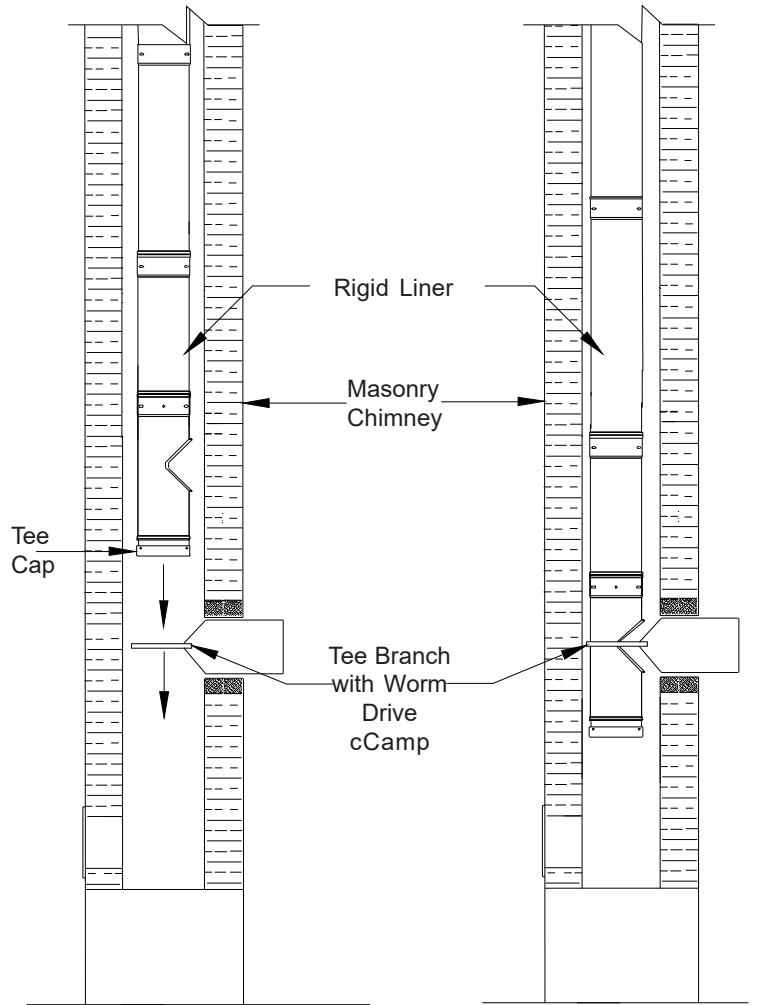

**FIGURE 12**
- The expanded (large) end of a Rigid Length always points upward as per the "UP" arrow on the listing label (see Figure12).
- Insert the small end (male end) of a Length into the expanded end (female end) of another Length. Secure Lengths together with 1/8" Pop Rivets (3 per). Assemble and rivet sections together into convenient lengths of six to eight feet (see Figure 12).